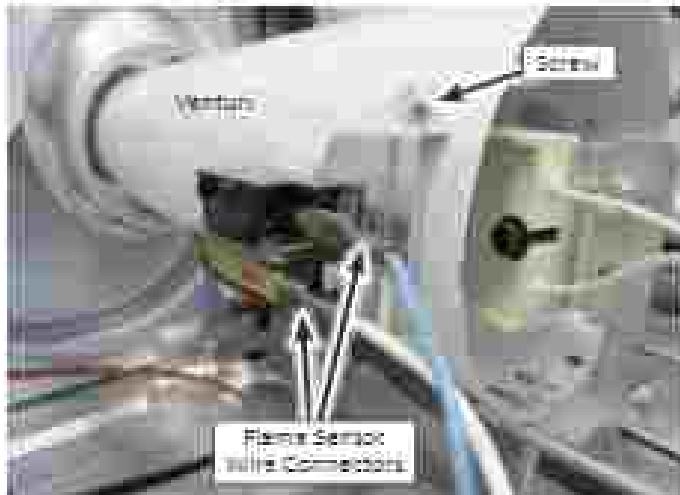
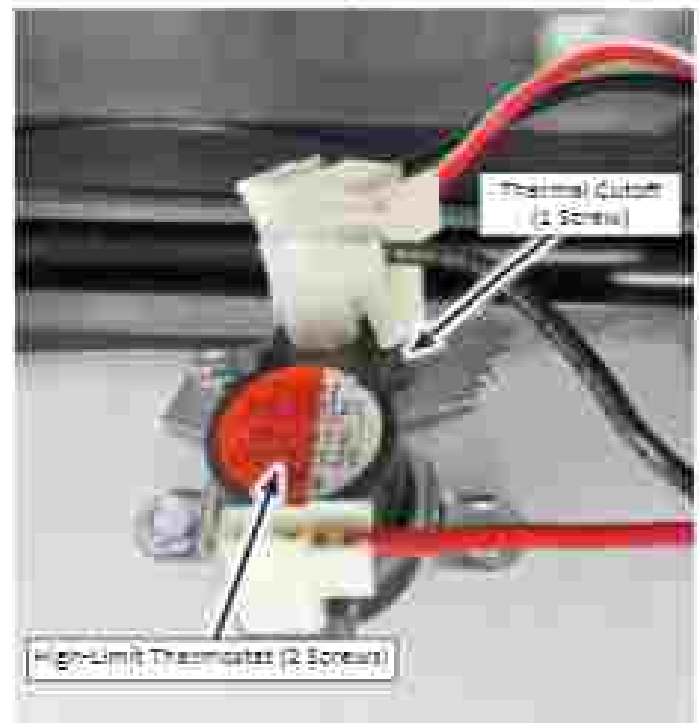

Figure 4 - Removing Flame Sensor
Figure 5 - Top Barrel Thermostat
6. To remove the Flame Sensor (see Figure 4):
- Disconnect the two (2) wire connectors from the flame sensor terminals.
7. To remove the High-Limit Thermostat or the Thermal Cutoff (see Figure 5):
- Disconnect the two (2) wire connectors from the component terminals.
- Remove the two (2) screws from the High-Limit Thermostat, or the single screw from the Thermal Cutoff. Remove the component from the venturi.